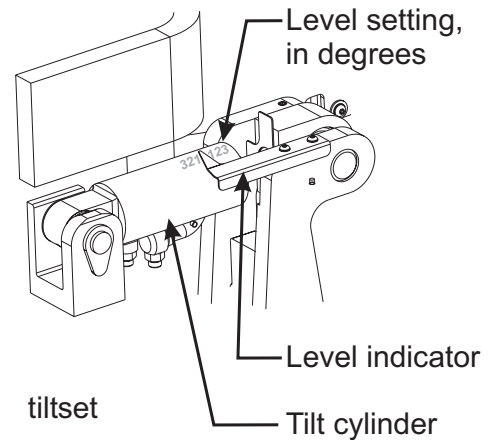

Figure 3-13 Tilt Level Gauge
3. Pull the TILT lever towards you to tilt the mast back. Rear tilt is 3° maximum (See Figure 3-13).
4. Push the TILT lever away from you to move the mast forward, or to return the forks to their horizontal position as indicated by the tilt level gauge mounted on the right and left sides of the mast (See Figure 3-13).